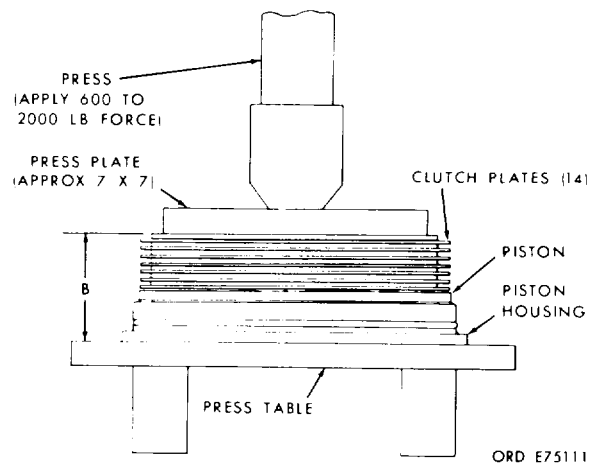

Figure 7-40. Clutch pack dimension over plates, piston and piston housing.
- b. Next, install the clutch piston into the piston housing and stack the 14 clutch disks onto the piston. Position this group, housing downward, on the press table or a smooth, flat steel plate (fig. 7-40)
c. Place a flat, smooth plate (approximately 7 x 7 inches) on the clutch plates as shown in figure 7-40.
d. Apply a press force of 600 to 2,000 pounds on the clutch group as shown in figure 7-40, and measure and record dimension B.